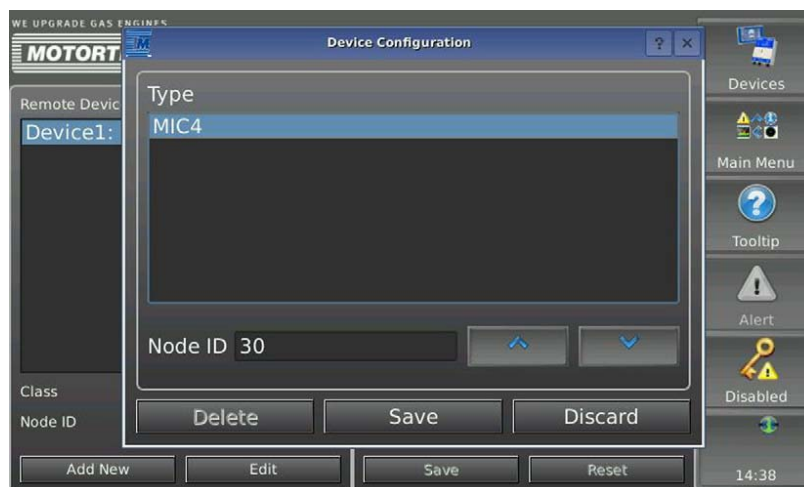

Fig. 2 – Selecting a new device
1. Clicking the *Add New* button displays the following window shown in Figure 2